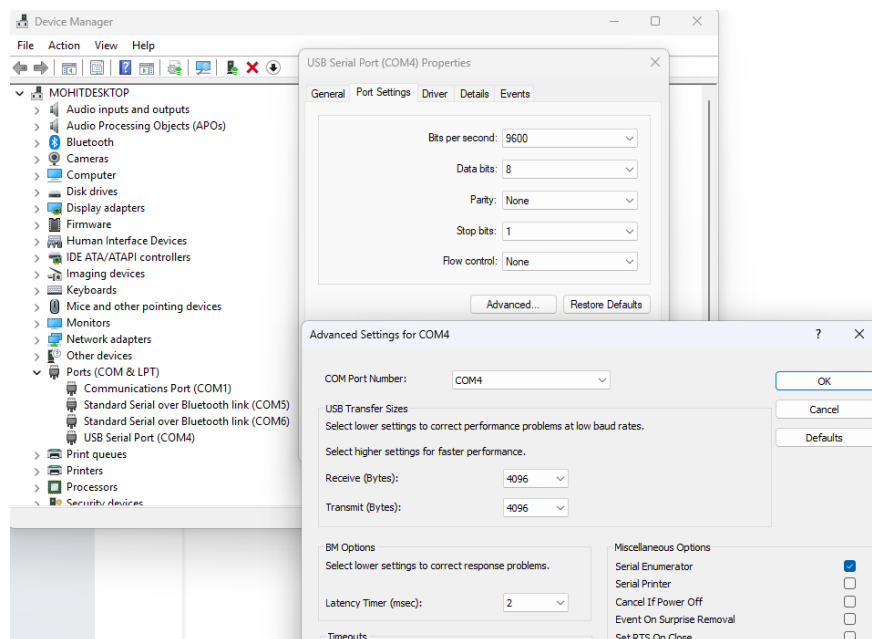

Figure 1. Latency Settings
- d. Check and update the latency setting as shown in Figure 1: